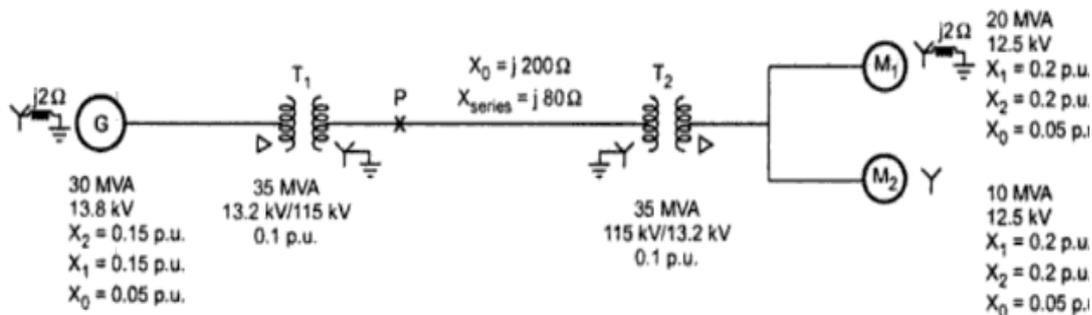

Fig. 3
7. A 30 MVA, 13.8 kV, 3 phase alternator has a subtransient reactance of 15%, negative and zero sequence reactance of 15% and 5% respectively. The alternator supplies two motors over a transmission line having transformers at both ends as shown in Fig.3. The motors have rated inputs of 20 MVA and 10 MVA both 12.5 kV with 20% subtransient reactance, 20% negative reactance and 50% zero sequence reactance respectively. Current limiting reactors of 2 ohms each are in the neutral of the alternator and the large motor. The three phase transformers both are rated 35 MVA, 13.2 kV/115 kV Delta/Star with leakage reactance of 10% series reactance of the line is 80Ω . The zero sequence reactance of the line is 200Ω . Determine the fault current when LLL-G fault takes place at point P. Assume $V_f = 120$ kV. 14M